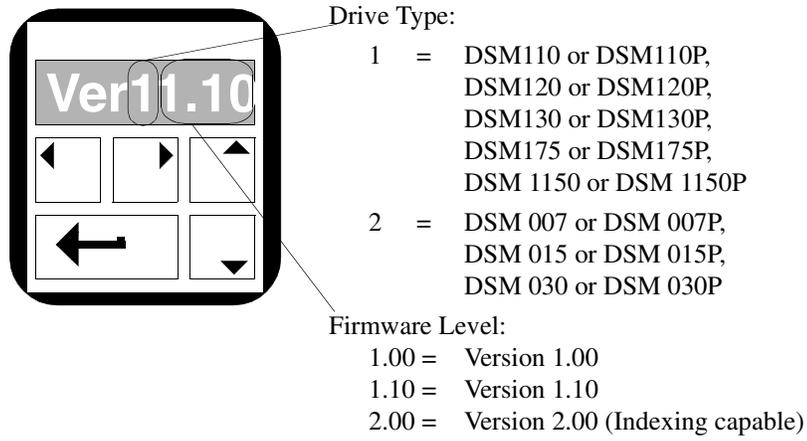

FIGURE C.2
4. Verify the **Ver###.##** displayed is correct at power-up. The version number designates the type of drive and its firmware level. Figure C.2 explains this display.